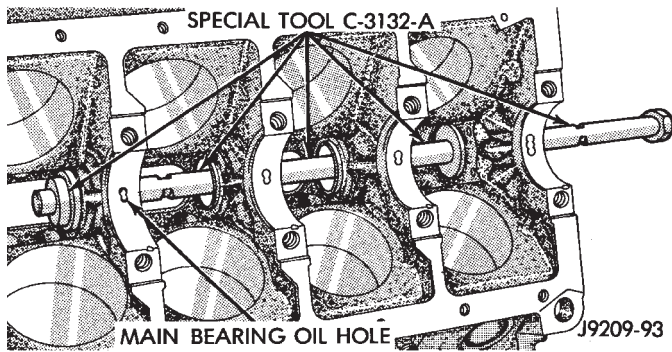

Fig. 43 Camshaft Bearings Removal and Installation with Tool C-3132-A
(1) With engine completely disassembled, drive out rear cam bearing core hole plug.
(2) Install proper size adapters and horseshoe washers (part of Camshaft Bearing Remover/Installer Tool C-3132-A) at back of each bearing shell. Drive out bearing shells (Fig. 43).